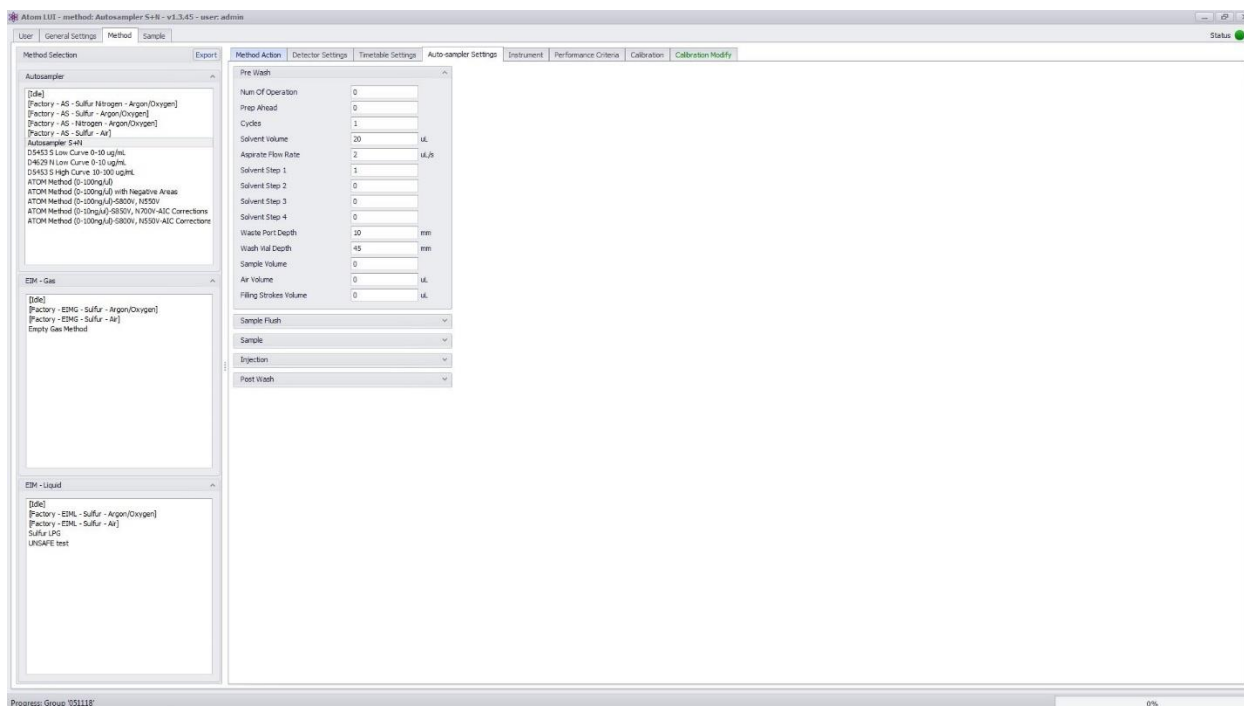

Figure 30 Autosampler Pre Wash Menu
- 1) Pre Wash (Figure 30): Sets syringe solvent wash before sample draw. *Please note that pre wash is only performed with a new sample*